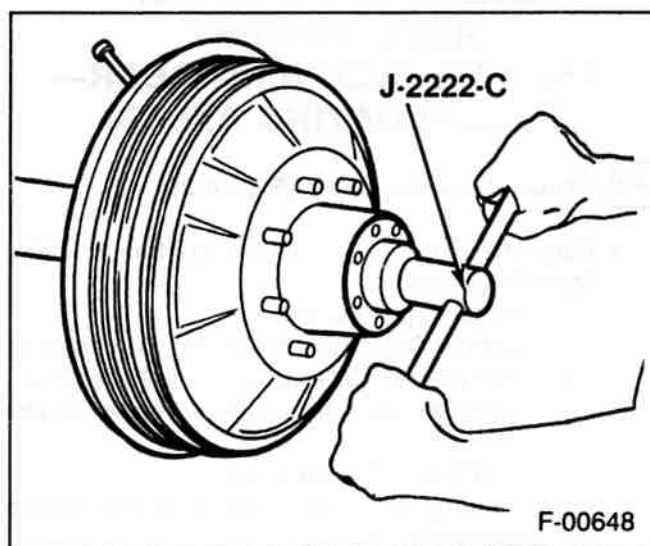

Figure 24—Removing Or Installing Nut
2. Axle shaft (52) as outlined earlier in this section.
3. Nut (40) use J-2222-C or retaining ring (56). Refer to figure 24.
4. Lock (41) or key (57).
5. Adjusting nut (42, 58). Refer to figure 24.
6. Washer (43).
2. Washer (43). Tang into key way.
3. Adjusting nut (42, 58). Refer to figure 24.
- Bend the tang to the flat of the adjusting nut (42) or insert the key (57).
5. Nut (40) or retaining ring (56). Refer to figure 24.